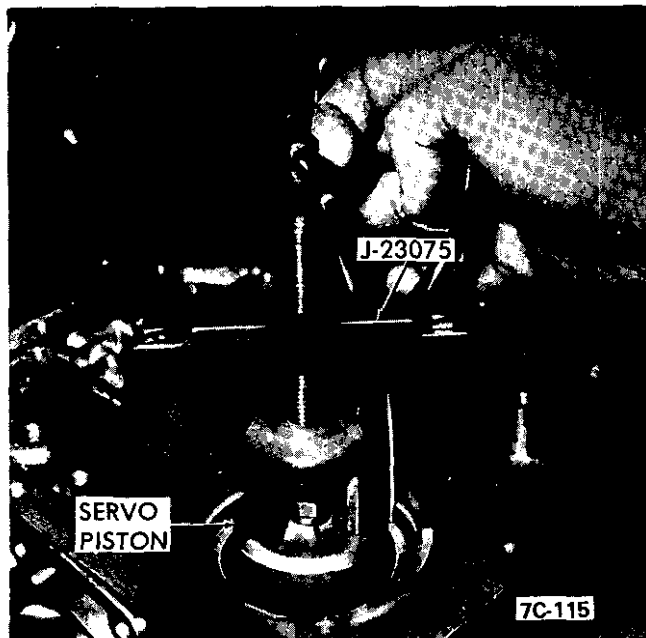

Figure 7C-225
4. Using 3/16" hex head wrench on servo adjusting bolt, adjust servo apply rod by tightening adjusting bolt to 40 lbs. in. Back off bolt five (5) turns. *exactly*. See Figure 7C-226.